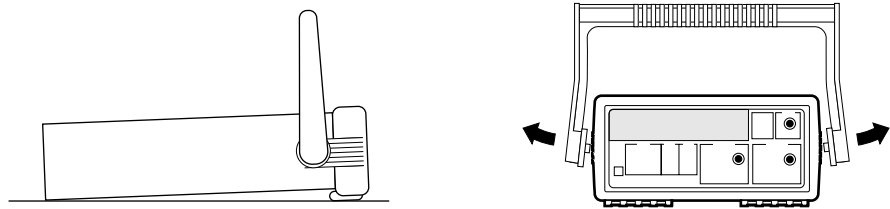

Figure 3-3. Handle Removal
**2 Remove the bail handle (MP7) by rotating it to the vertical position and pull the ends outward as shown in Figure 3-3.**